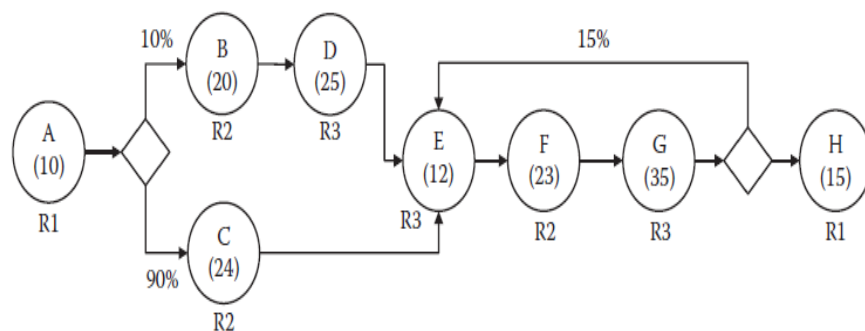

Figure 3 Process Flow Chart
- b. A process management team has studied a process and has developed the flowchart in Figure 3. The team also has determined that the expected waiting and processing times (in minutes) corresponding to each activity in the process are as shown in Table 1.